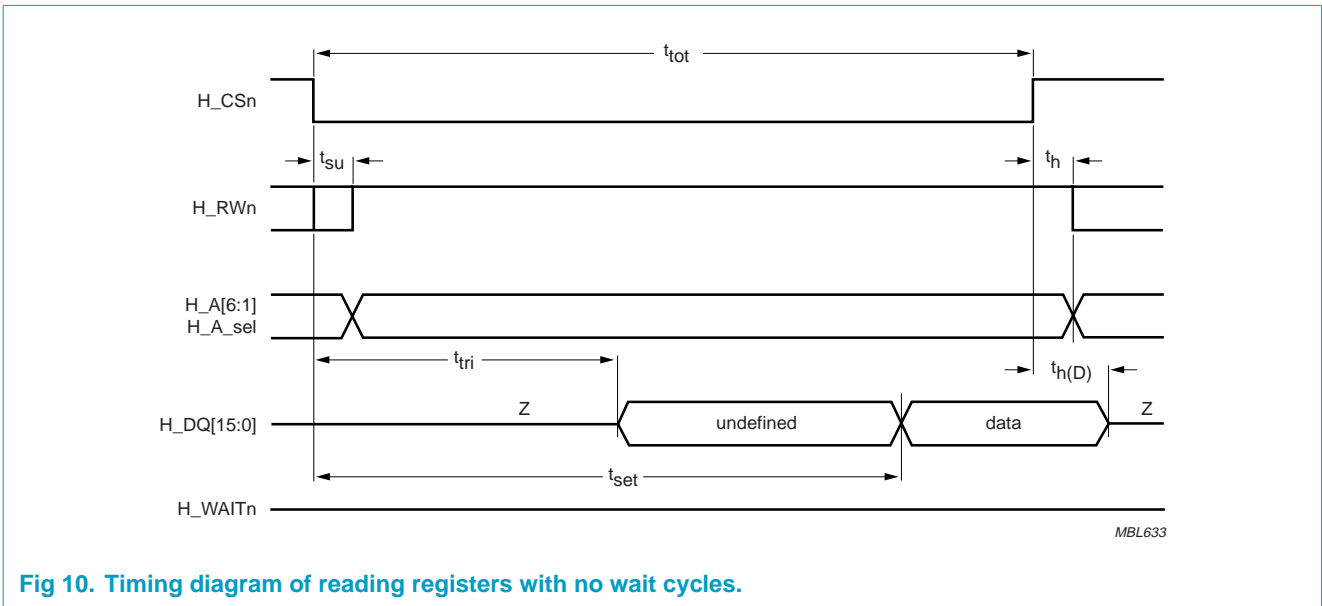

Fig 10. Timing diagram of reading registers with no wait cycles.
- [1] When the SAA7893HL SAD16 interface is programmed to generate always a H\_WAIT signal of at least 7 sys\_clk cycles, then it is no longer required that the minimum time of  $t_{tot}$  is 14 sys\_clk cycles. The data at the H\_DQ output is always available at the negative edge of the H\_WAIT signal. The host can deactivate the H\_CS signal after the negative edge of the H\_WAIT signal and when it has read the data at the H\_DQ lines. When a H\_WAIT signal is always generated then the timing diagrams in Figure 9 and Figure 10 are no longer applicable.